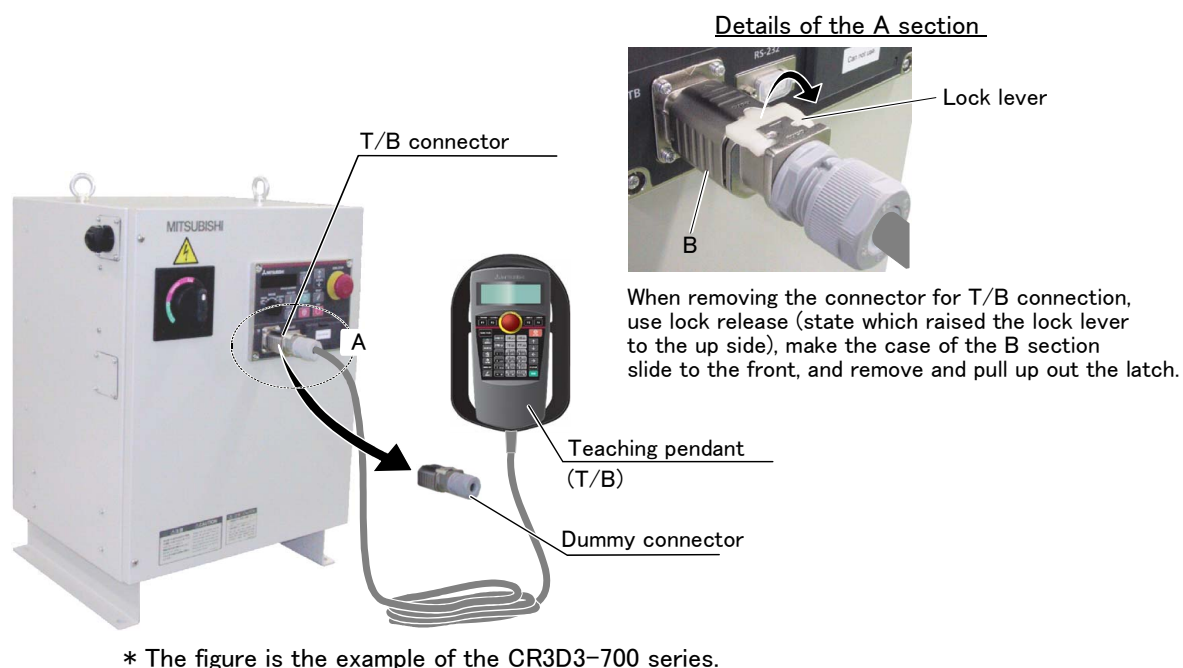

Fig. 4-5 : Installing and removing the T/B
- 2) Connects T/B connector to the robot controller. Use as the upper surface the lock lever shown in Fig. 4-5, and push in until there is sound.